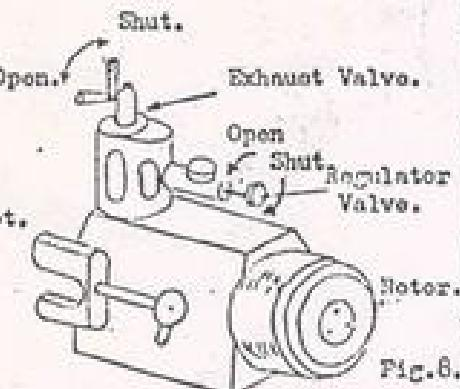

Fig. 8.
- 5.18 Close the regulator valve (clockwise). See Fig. 8.